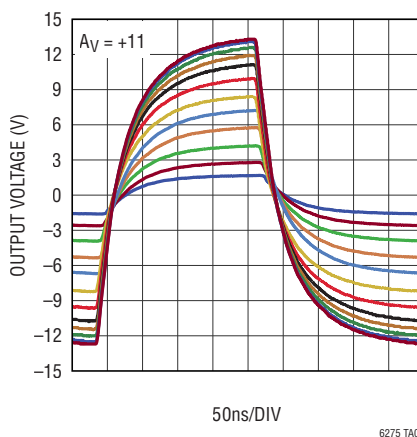

Figure 2. Noninverting Amplifier Step Response ( $A_V = +11V/V$ )
Figure 2 shows the output response to varying input step amplitudes. Note that none of the exponential responses is limited by the initial slew rate (which increases with increasing amplitude).
As a particular example, with  $A_V = +11V/V$ , 15V output excursion, and 40 MHz GBW, Equation (3) predicts a maximum slew rate of 343V/ $\mu$ s. Measurement on the corresponding curve in Figure 2 shows 390V/ $\mu$ s, which is in good agreement with the prediction. As another example, with an 18.5V output excursion, the predicted maximum slew rate is 423V/ $\mu$ s; measurement shows 460V/ $\mu$ s.
As the peak to peak voltage of the input step changes, the maximum initial slew rate changes. The 63% rise time of the closed loop response, however, does not change (as seen in Figure 2), because the closed loop bandwidth stays constant for all input amplitudes.